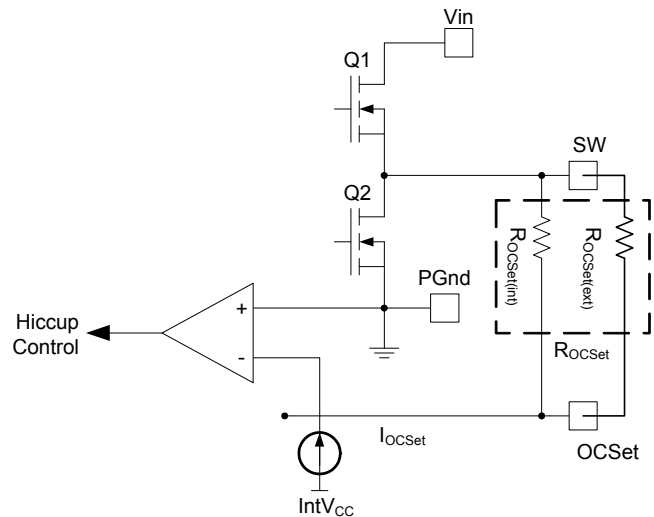

Figure 11: Connection of over-current sensing resistor
The over current protection is performed by sensing current through the  $R_{DS(on)}$  of low side MOSFET. This method enhances the converter’s efficiency and reduces cost by eliminating a current sense resistor. As shown in Figure 11, an external resistor ( $R_{OCSet}$ ) is connected between OCSet pin and the switch node (SW) which sets the current limit set point.